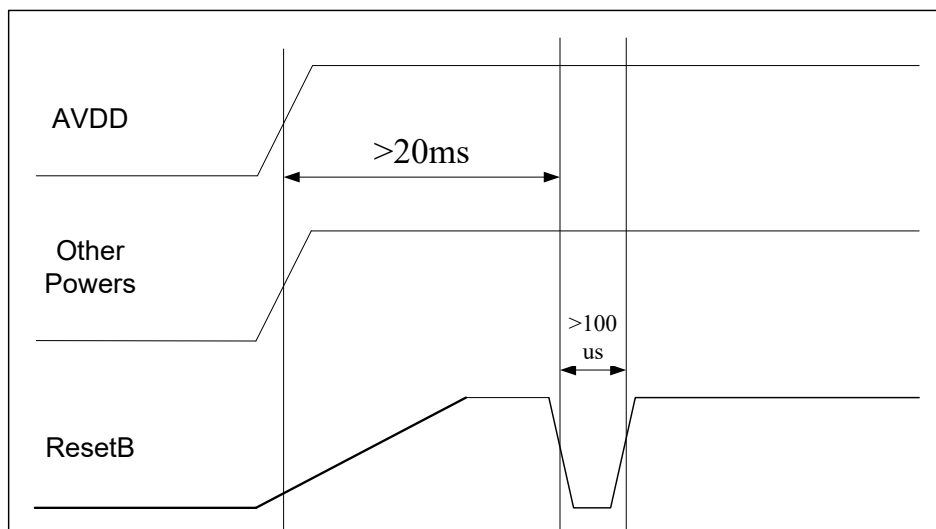

Figure 3: Power-on Reset Function's Sequence external global reset
2. ResetB signal is generate by system global reset. In this case, the power supply should be valid and stable for at least 20ms before the reset signal is valid. The pulse width of valid reset signal should be at least 100us. Otherwise, the chip can't work well. The timing is shown in Figure 3.